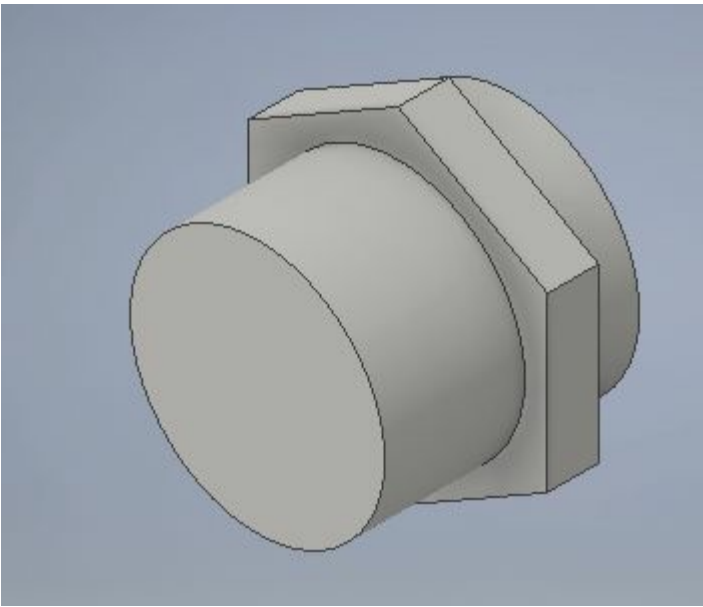

Figure-20. Model of a glow bulb
- Create a solid model by using the 3D modeling tools of Autodesk Inventor; refer to Figure-20.